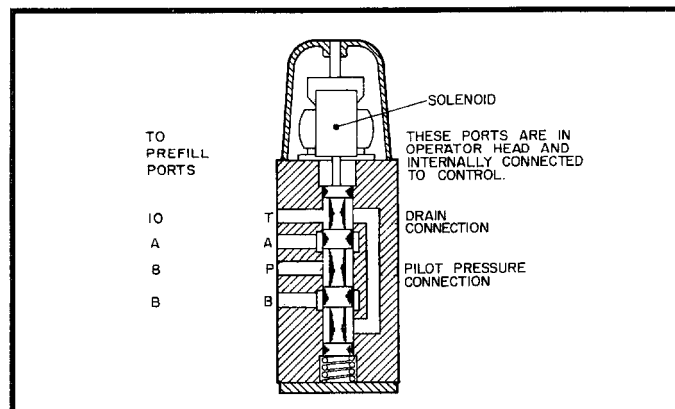

Figure 5. Type "C" Solenoid Control (508737D).
**2. Solenoid Control.** Refer to figures 5, 2 and 3. A solenoid operated four-way valve directs pilot fluid and pressure (up to 5000 psi 345 bar) to open or close the prefill as commanded by an electrical signal. Some valves may be equipped to meter flow to Port "A" or "B" and thus control prefill valve operation speed.